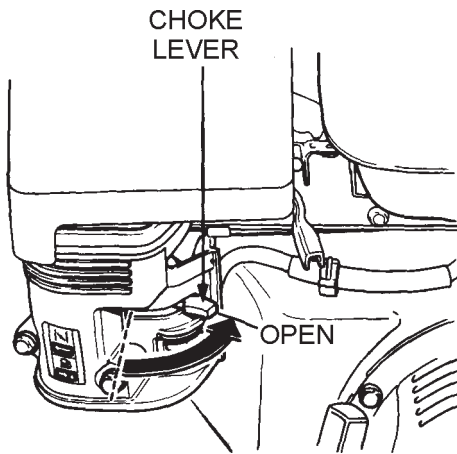

Figure 14. Engine Choke Lever (Open)
- Place the **choke lever** (Figure 14) in the "**OPEN**" position if starting a **cold** engine.